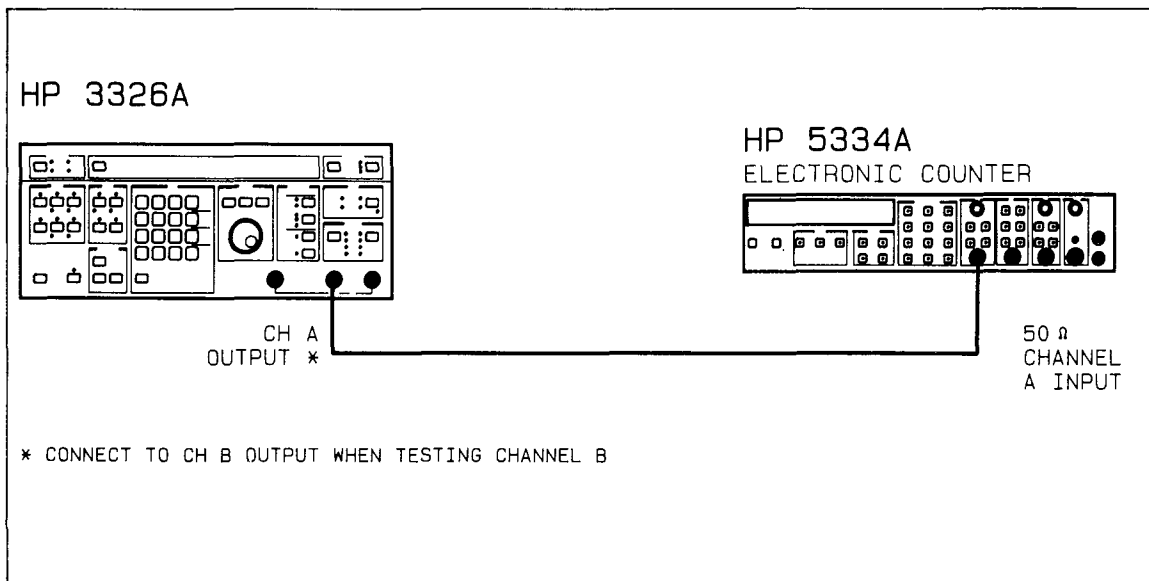

Figure 2-13. Square Wave Symmetry and Pulse Width Accuracy Test
2. Connect the test equipment as follows (illustrated in Figure 2-13):